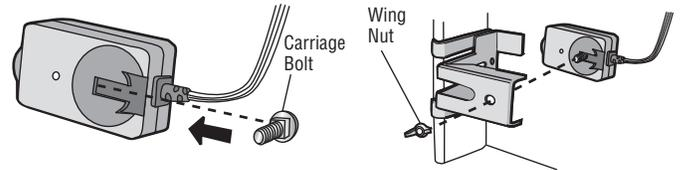

Figure 6
1. Run the bell wire from both sensors to the garage door opener. Attach the wire to the wall and ceiling with the staples (Figure 6).